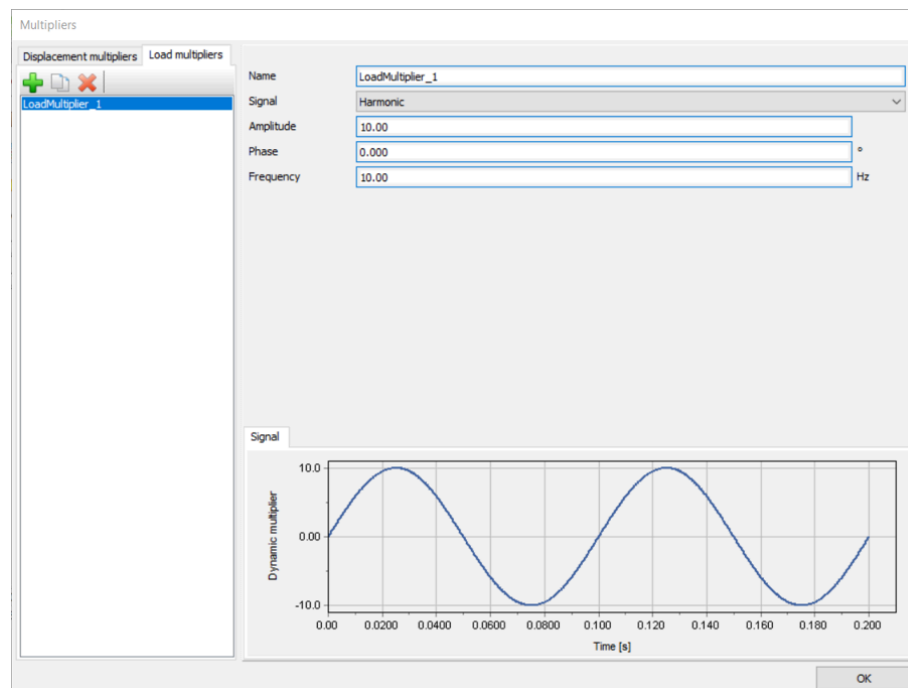

Figure 15–5: Definition of a Harmonic multiplier
- 9 Define a **Harmonic** signal with an **Amplitude** of 10, a **Phase** of 0° and a **Frequency** of 10 Hz and as shown in Figure 15–5 \(p. 237\):